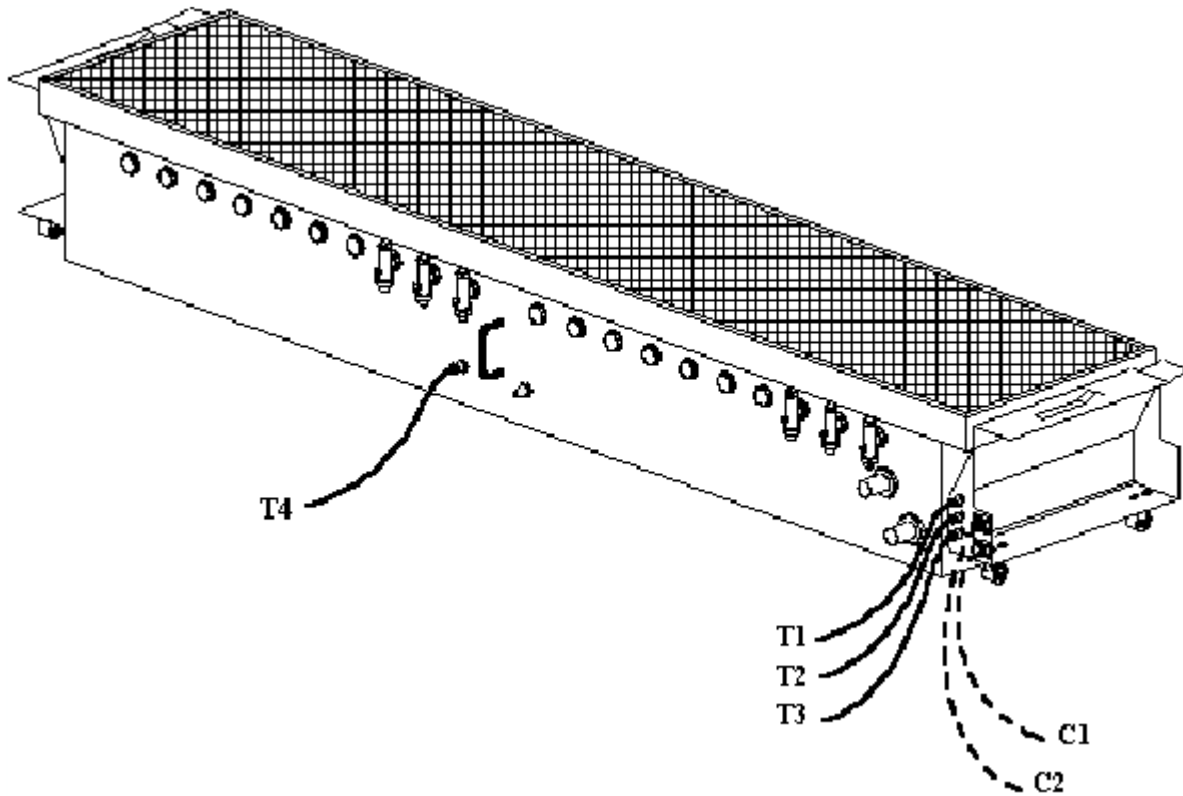

Fig. 2
- Connection diagram.....see **fig. 2**.
Connect the level detector (C1-C2 Fig.2) following the diagram above :